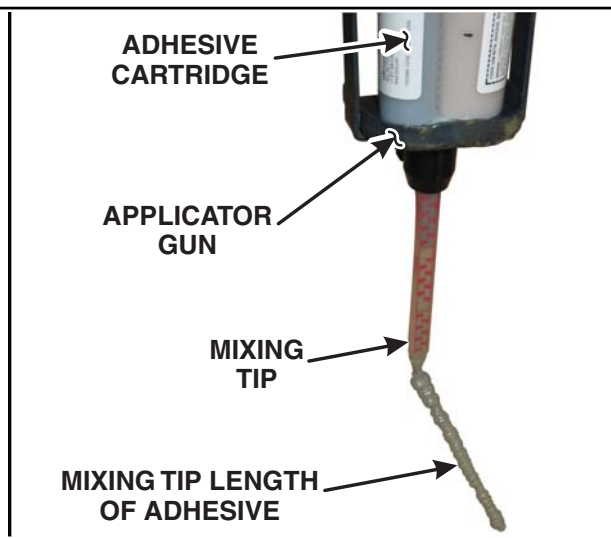

FIGURE 12B
4. Attach the mixing tip and replace the black retaining nut. Dispense a mixing tip length of adhesive onto a piece of scrap cardboard to ensure the product is evenly mixed and the color is consistent. The mixed adhesive should be grayish in color. See Figure 12B.